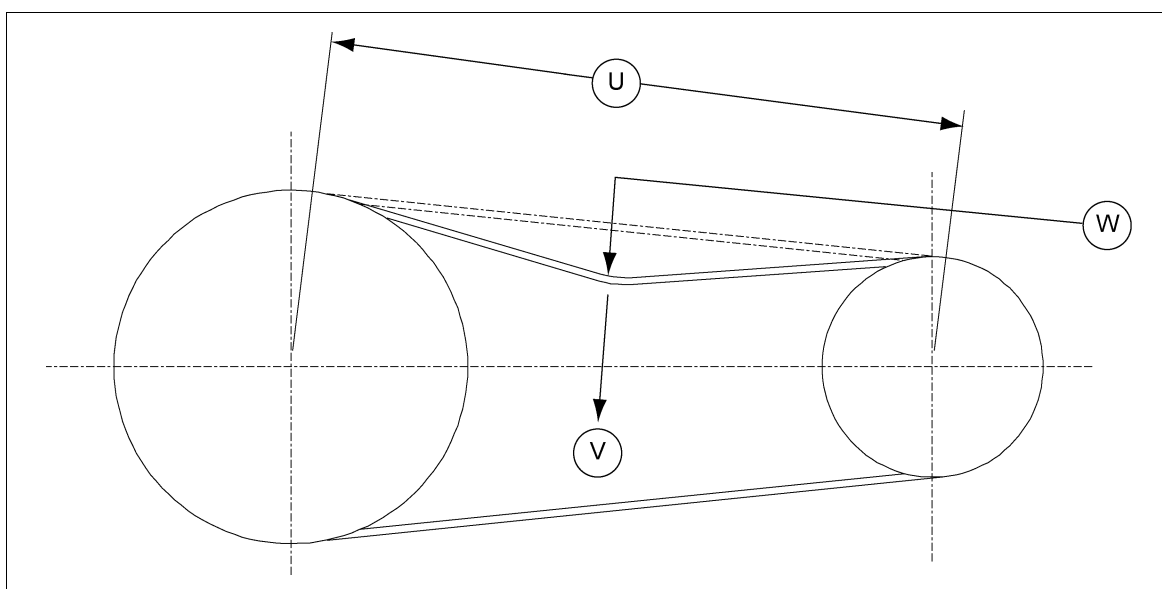

Figure 4Q
Adjustment of V-belt tension is achieved by tightening the hex nuts located on the four (4) jack screws of the motor base. Adjust motor base equally at all four (4) jack screws to maintain shaft alignment. Belts are designed to fit loosely upon installation. When the V-belt tension is correct, tighten the top nut on the jack screws to lock the motor base in position. Proper tension is $1/64$ " of deflection per one inch (1") of sheave centers on one side of belt, centered between sheaves. (See Figure 4Q.)